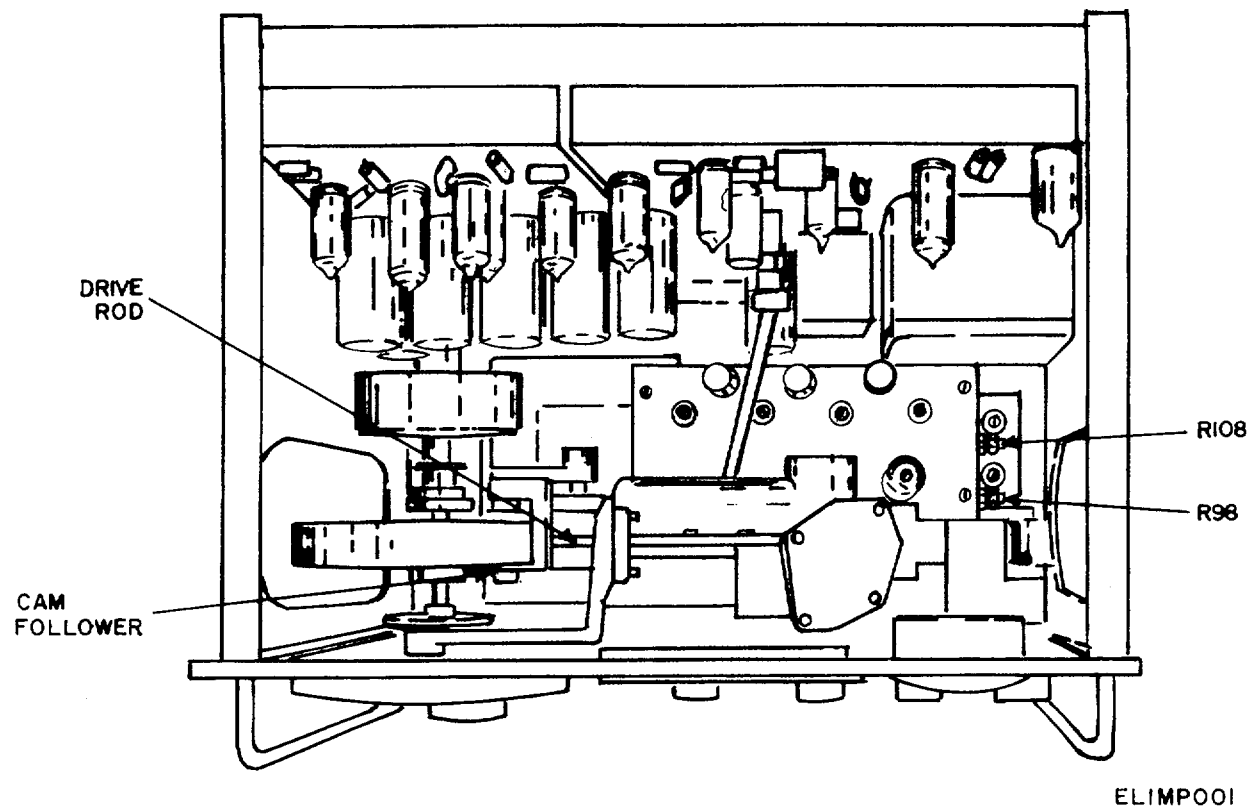

Figure 1. Top interior view.
(1) Remove TI from case.
(2) Turn ZERO SET control to midrange.
(3) Adjust R98 (figure 1) for ZERO SET as indicated on power monitor meter. (R)
(2) Adjust PWR SET control for -1 dBm as indicated on power meter (A3).
(3) Adjust R108 (fig. 1) for 0 dBm (POWER SET) as indicated on TI power monitor meter. (R)
- (2) Loosen setscrews holding drive rod (fig. 1) to cam follower.
(3) With frequency dial at 10 GHz, manually move drive rod in increments of approximately 1/32 inch until output frequency of TI is 10 GHz as indicated on the frequency counter.
- (4) Tighten setscrews.
(5) Repeat a(1) through (4) and refine the adjustment as necessary to ensure that TI indications are within tolerance. (R)